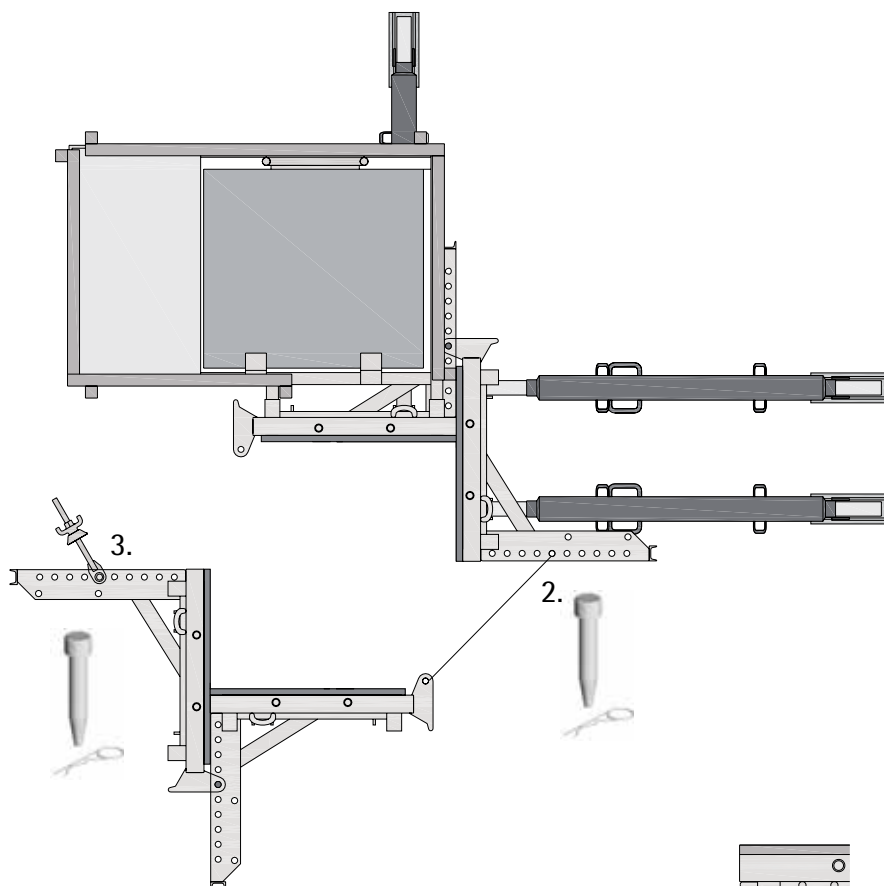

Fig. 24
3. Fasten tensioning devices (eye screws + plates with ball-and-socket joint) with Grip bolts and retaining pins (Fig. 24).